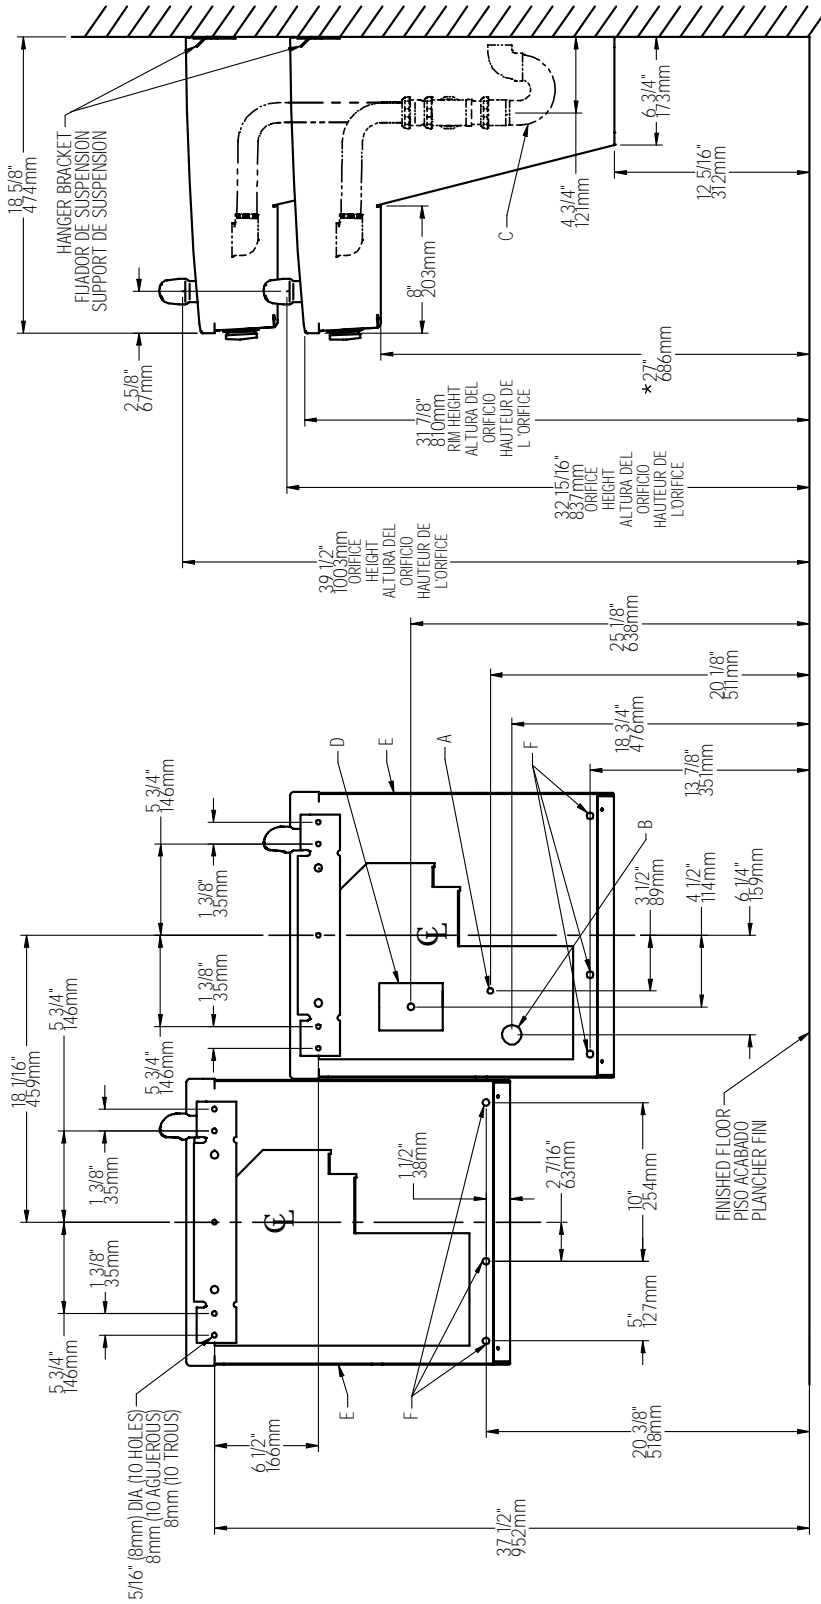

FIG. 2
- 1) Remove hanger bracket fastened to back of cooler by removing one (1) screw.
- 2) Mount the hanger bracket and trap as shown in Figure 2.
- 4) Hang the cooler on the hanger bracket. Be certain the hanger bracket is engaged properly in the slots on the cooler back as shown in Figure 2.
- 5) Loosen the two (2) screws holding the lower front panel at the bottom of cooler base and two (2) screws at the top (**Use torx bits sold separately**). Remove the front panel and set aside.
- 7) Remove the slip nut and gasket from the trap and install them on the cooler waste line making sure that the end of the waste line fits into the trap. Assemble the slip nut and gasket to the trap and tighten securely. Recommend fastening cooler to wall using 7/16 bolt holes. (see fig.2, "F")